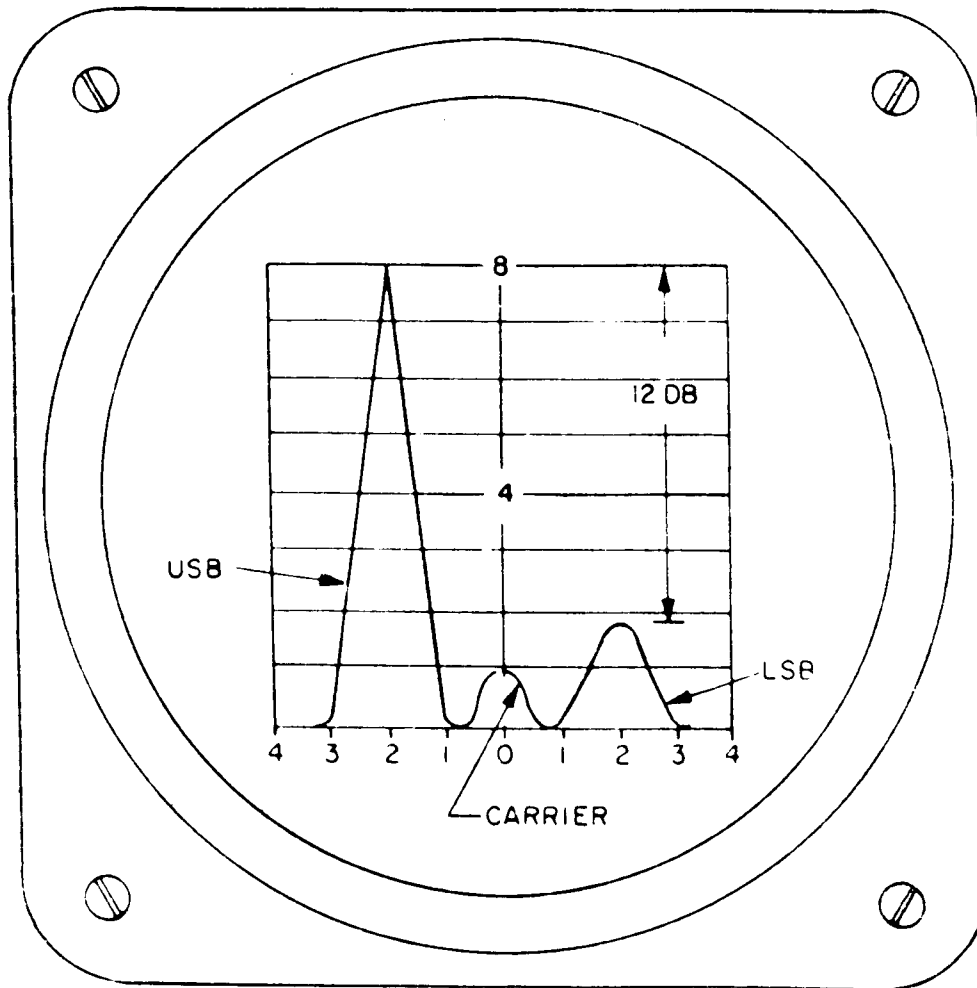

Figure 8. Sideband suppression waveforms.
- (7) Turn no. 2 variable attenuator A3, to 30 db.
- (8) Adjust the controls on spectrum analyzer (A1, table 2) for a spectrum presentation output pip ( $f_0$ ).
- (9) Adjust no. 2 variable attenuator for 4-cm amplitude on the spectrum analyzer.
- (10) Alternately turn no. 3 variable attenuation A2 and the phase shifter until the carrier spike disappears into the baseline noise on the spectrum analyzer.
- (11) Adjust no. 2 variable attenuator for a 4-cm amplitude on the spectrum analyzer.
- (12) Turn no. 3 variable attenuator and the phase shifter for null on the spectrum analyzer.
- (13) Repeat steps (11) and (12) above until no. 2 variable attenuator indicates 0 db and the carrier can be nulled no further.
- (14) When no. 2 variable attenuator indicates 0, turn it to 40 db. The presentation on the spectrum analyzer should decrease in amplitude. If the amplitude does not decrease, check for leakage at the flanges and components, then repeat steps (11) through (13) above.
- (15) Rotate no. 2 variable attenuator to 12 db.
- (16) Turn SIGNAL SELECTOR switch to NOISE.
- (17) Adjust VERTICAL GAIN on spectrum analyzer for 4-cm amplitude (upper sideband, fig. 8).
(18) Maintain the carrier at null and turn no. 2 variable attenuator to 0 db. The suppressed sideband should be less than 4-cm in amplitude, as indicated in figure 8.